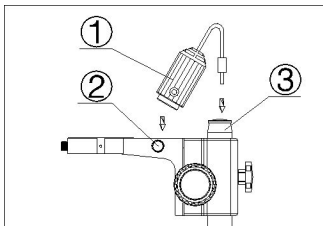

Fig.6
- 1) Insert the illumination device^① in the bracket with the protrudent side toward the lock-screw^② and tighten the lock-screw. (Fig.6)
- 2) Put the plug into the socket of the pillar stand^③.